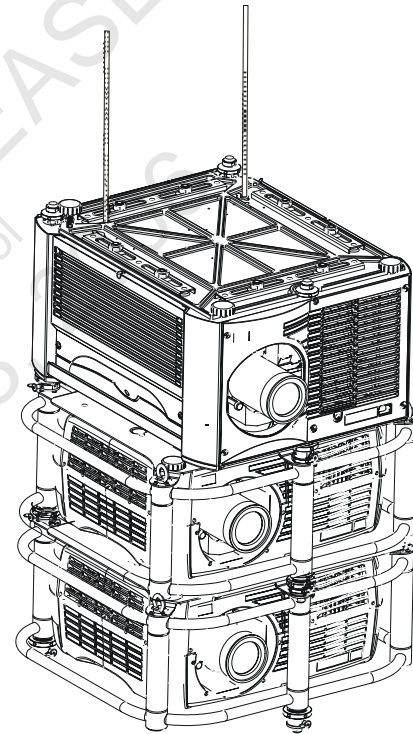

Figure 6. Safety Cables
2. Attach a safety cable to each of the two eyebolts mounted on the bottom of the projector. Refer to Figure 6.